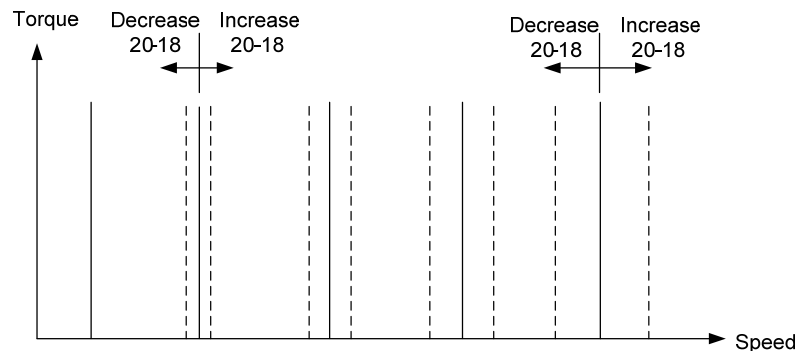

Figure 4.4.100 Effect on the torque-speed curve from 20-17
- Use parameter 20-18 to adjust the torque compensation gain for middle to high speed range. For most general purpose applications it is not necessary to adjust the 20-18. By tuning 20-18 an offset is added to the torque-speed curve. Increase 20-18 when the no-load speed is lower than the frequency reference. Decrease 20-18 when the no-load speed is higher than the frequency reference. The effect on the torque-speed curve from 20-18 is shown as the following Fig.4.4.100.